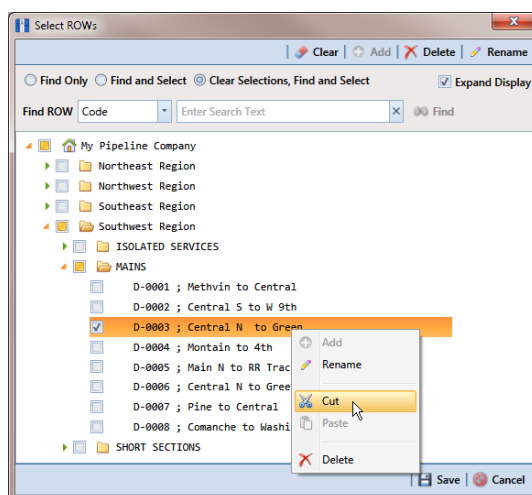

Figure 3-6. Move Pipeline
- 1 If the *Select ROWs* window is not open, click **File > Select ROWs** and then select a pipeline in the hierarchy (Figure 3-6).
- 2 To move the selected pipeline to a different hierarchy folder, right-click the pipeline and select **Cut** in the shortcut menu that opens. Right-click the hierarchy folder you want to move the pipeline to and then select **Paste** in the shortcut menu that opens (Figure 3-6).